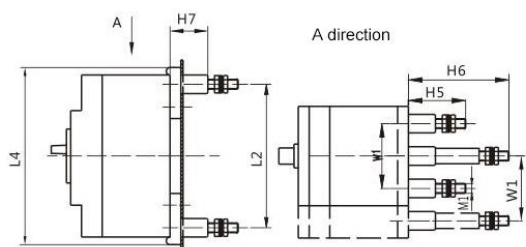

Figure 4 TXM1E-100/250 Fixed back-panel wiring
(2) Dimensions of rear connection see Figure 4 and 5